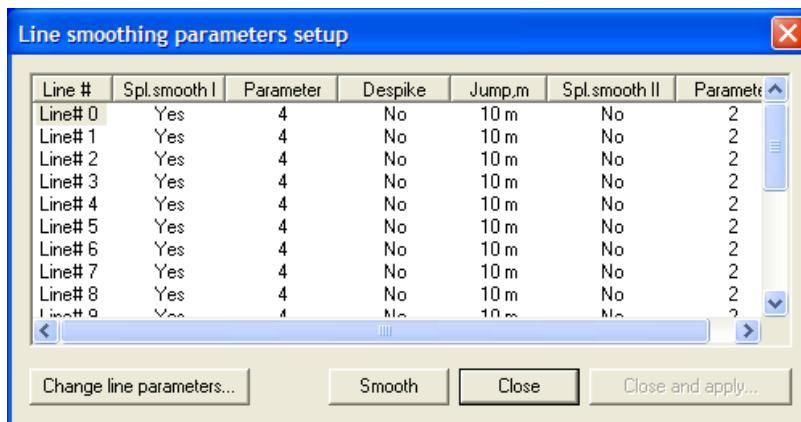

Figure 103: GPS Line Smoothing Parameters dialog box.
- After selecting the GPS menu option > Smooth positions, select the GPS Smooth Position option from the Main menu and the Line Smoothing Parameters Setup window will be displayed (Figure 103).